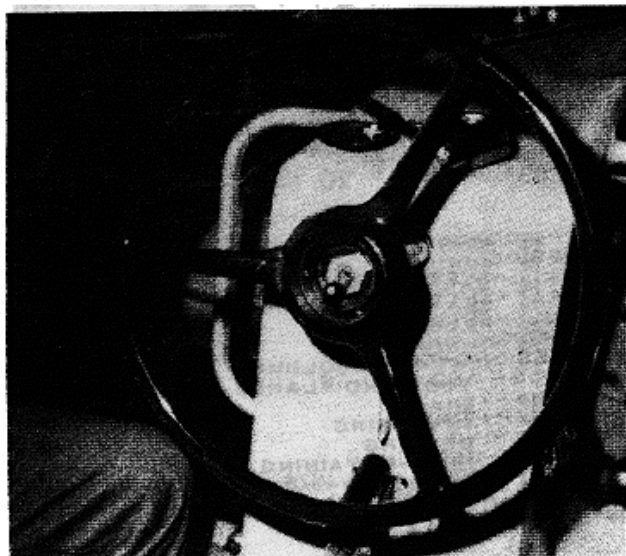

FIGURE 9-4.
b. Remove steering wheel jam nut and use a puller to remove steering wheel. Then remove the two countersunk mounting capscrews from the gooseneck (see figure 9-4).